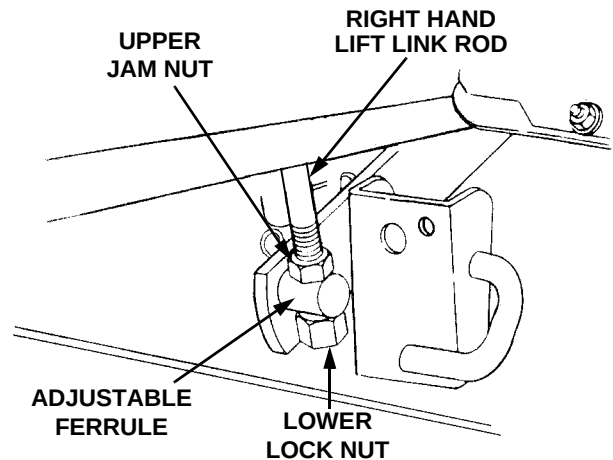

Figure 5-7
adjustment ferrule and right hand lift link rod (Refer to Figure 5-7).
7. Loosen the upper jam nut on the lift link rod and turn away from the adjustment ferrule. Turn the lower lock nut upward (tighten) on the threads of the rod to raise the right side of the mower deck. Turn the lock nut down (loosen) on the threads to lower the right side of the mower deck (See Figure 5-7).